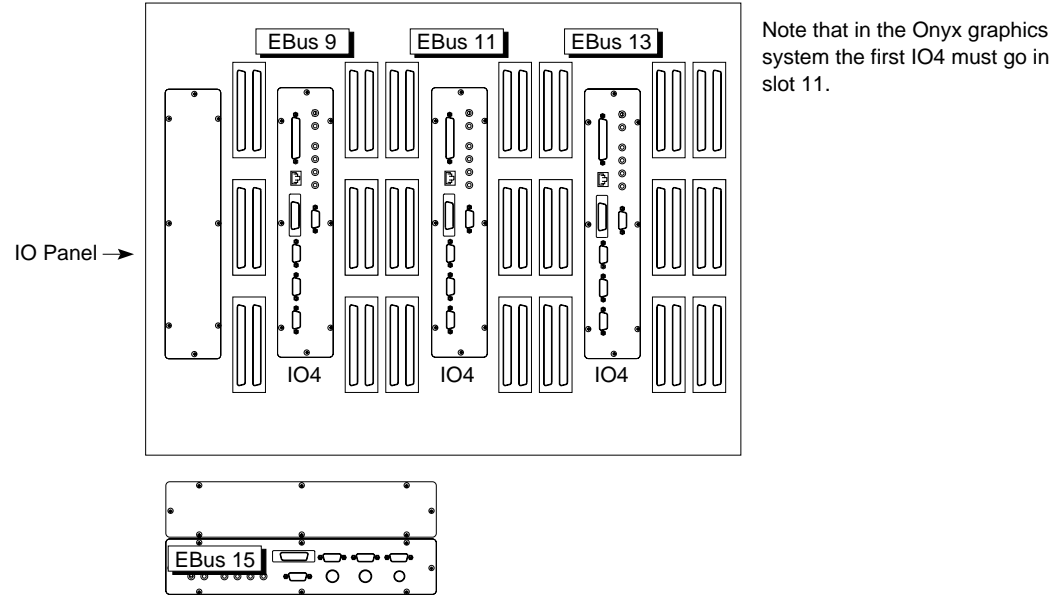

Figure 3-56 Server System IO4 Filter Board Connector Plate Labelling
4. Systems with a single graphics pipe in Cardcage 3 are cabled as shown in Figure 3-56. Systems with two graphics pipes are cabled as shown in Figure 3-57.